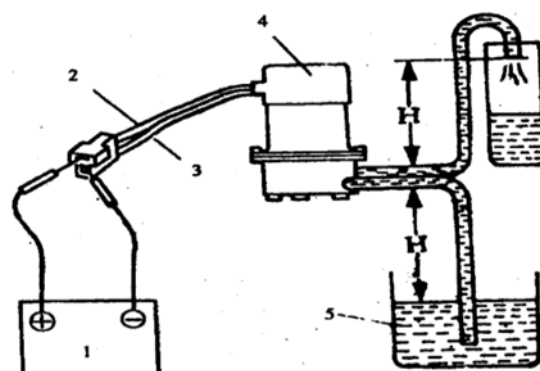

Fig. 2.1-3 Check of the power pump flow capacity
3) After final completion, check the power pump flow capacity according to the method referred in Fig. 2.1-3, and the flow capacity shall be more than 500ml/min.